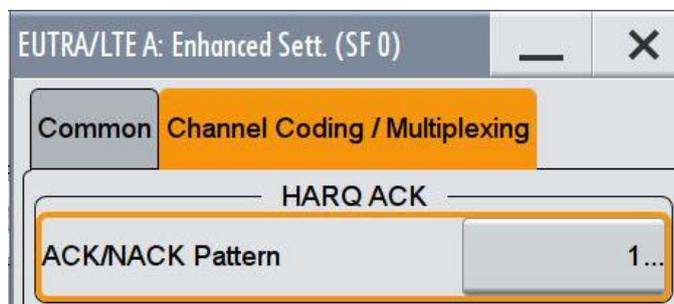

Fig. 3-149: Set one bit ACK pattern to '1' (ACK)
12. Set the **ACK/NACK Pattern** (one bit) to '1' (Fig. 3-149)